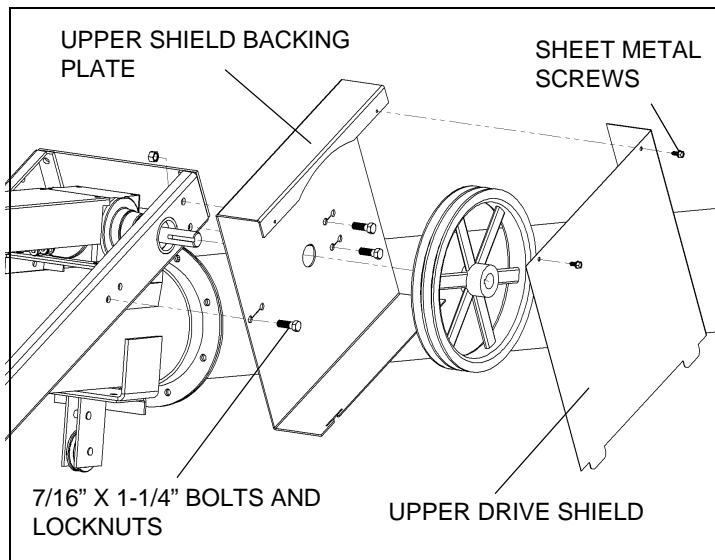

Figure 3.35
13. Install upper shield backing plate to the upper end of the left frame channel using three 7/16" x 1-1/4" bolts and locknuts (Figure 3.35). Orient bolts to point toward the frame, with nuts on inside of channel. Tighten bolts.
14. Install supplied 12-3/4" aluminum pulley onto gearbox as shown in Figure 3.35. The pulley should be installed as far away from the frame as possible while still being completely on the gearbox shaft. Use a 1/4" x 1-1/2" square key and be sure to tighten all set screws thoroughly. These screws should be re-tightened after each of the first few uses.
19. Slip tabs of upper drive shield into notches on the upper shield backing plate mounted to the frame in step 13. Secure shield with 2 sheet metal screws (Figure 3.35).